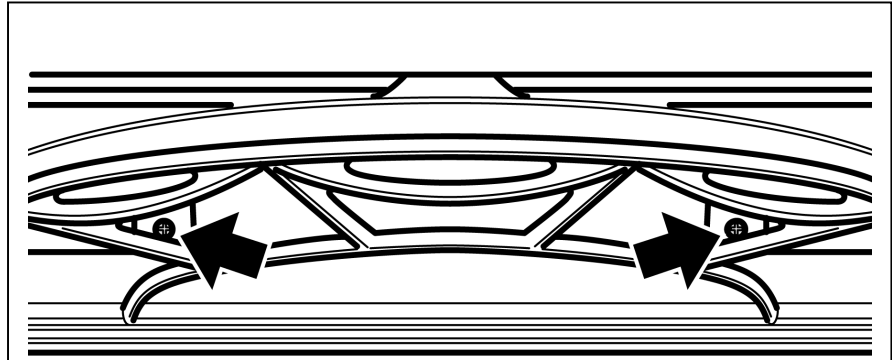

Figure 3. Removal of Screws on cast Iron fascia.
3. Remove two screws located behind the upper decorative casting (See figure 3).